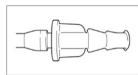

Figure 3: Suction Barb
- If suction is desired, attach the suction barb to a suction system via suction tubing (Figure 3).